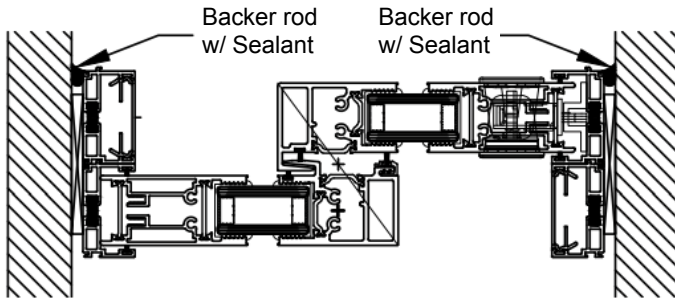

FIGURE 12A
16. Apply backer rod and compatible sealant to the interior joint between the frame and the rough opening as shown in Figures 12a and 12b.